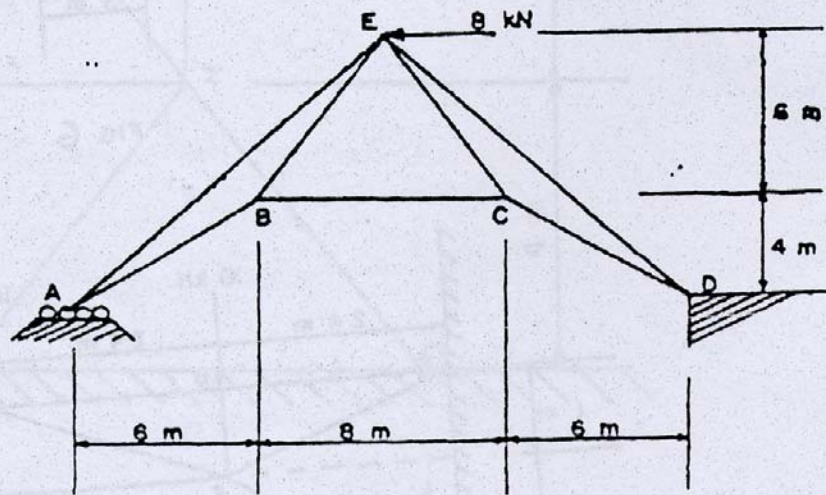

FIG 9
9. Determine the magnitude and direction of the reactions at A and D of the loaded plane frame shown in Figure 9 and then use the method of tension coefficients to find the forces in the members. Show the reactions and forces on a neat sketch of the frame.